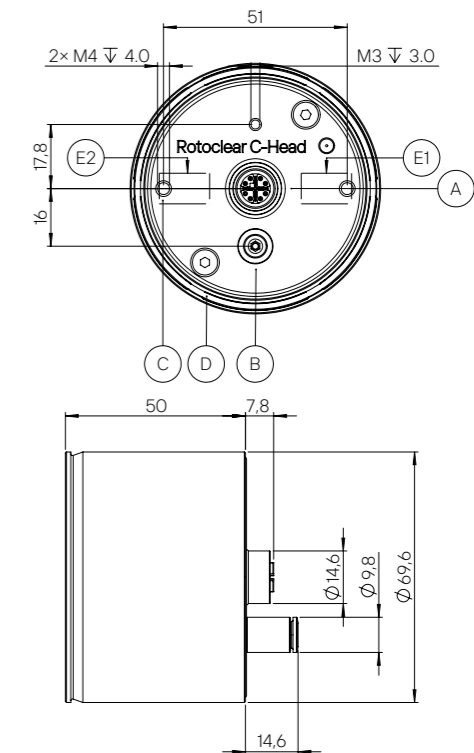

Figure 3
The screw threads are located in a line with the positions of the camera lens(es) (Fig. 3-E1, or depending on configuration Fig. 3-E2). For output in landscape format, the screw positions (Fig. 3-C) must be located along a horizontal line. For portrait format, they must be along a vertical line.
In addition to the optionally available mounting accessories (also see the sections "Flex arm mount", "Ball mount" and "Spindle mounting"), the camera head can be mounted according to individual requirements. To seal the opening in the housing wall, insert the sealing ring into the groove (Fig. 3-D) provided (enclosed).
As described above, two M4 threads (Fig. 3-C) are provided on the back of the housing as a mounting interface.
For mounting, use the two M4 threads (Fig. 3-C) on the rear side at a distance of 51 mm.
**!** The data cable connected to the interface (Fig. 3-A) and the sealing air tube (Fig. 3-B) can also be routed in the area exposed to media without additional protective tubing, provided that they are adequately protected against damage from chips or other sharp-edged parts and all plug connections have been tightened to the correct torque.
**⚠** Make sure that the system is disconnected from the power supply. Connect the data cable firmly with the plug to the corresponding interface (Fig. 3-A) on the rear, such that the plug closes tightly. The tightening torque for the M12 plug-in connections is 0.6 Nm. Connect the plug connector to your compressed air supply (Fig. 3-B).